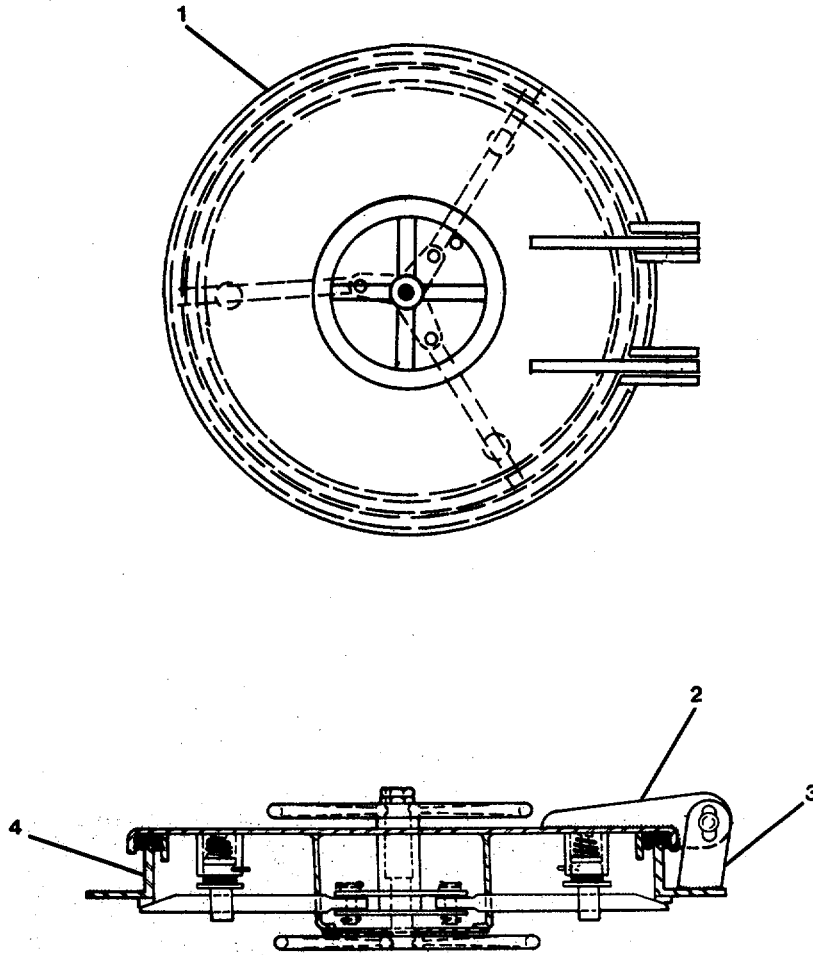

FIGURE 3-176. Repair Watertight Scuttle. Quick Action (Raised).
**3-192. Repair Watertight Scuttle, Quick Action (Raised). (Figure 3-176)**